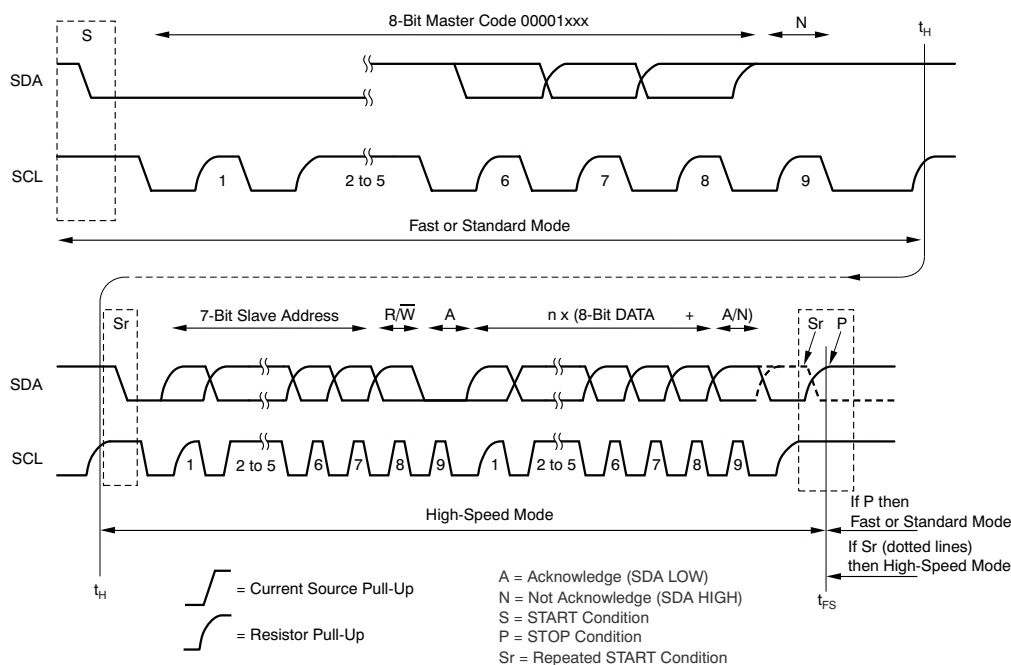

Figure 30. Complete High-Speed Mode Transfer
When the bus master sends the address byte with the $\overline{\text{R/W}}$ bit = 0, and the TSC2007 sends an acknowledge, the pen-interrupt function is disabled. If the command that follows the address byte contains $\text{PD0} = 0$, then the pen-interrupt function is enabled at the end of a conversion. This action is approximately 100 μs (12-bit mode) or 50 μs (8-bit mode) after the TSC2007 receives a STOP/START condition, following the receipt of a command byte (see Figure 31 and Figure 30 for further details about when the conversion cycle begins).
1. START condition (S)
3. Not-acknowledge bit (N)
Figure 30 shows this sequence in more detail. Hs-mode master codes are reserved 8-bit codes used only for triggering Hs mode, and are not to be used for slave addressing or any other purpose. The master code indicates to other devices that an Hs-mode transfer is about to begin and the connected devices must meet the Hs mode specification. Because no device is allowed to acknowledge the master code, the master code is followed by a not-acknowledge bit (N).
After the not-acknowledge bit (N) and SCL have been pulled-up to a HIGH level, the master switches to Hs-mode and enables the current-source pull-up circuit for SCL (at time t_H shown in Figure 30). Because other devices can delay the serial transfer before t_H by stretching the LOW period of SCL, the master enables the current-source pull-up circuit when all devices have released SCL, and SCL has reached a HIGH level, thus speeding up the last part of the rise time of the SCL.